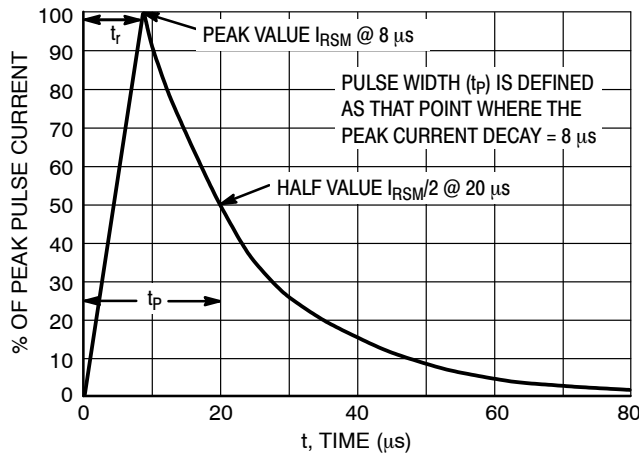

Figure 5. 8 x 20 μs Pulse Waveform
- $V_C$  measured using pulse waveform in Figure 5.